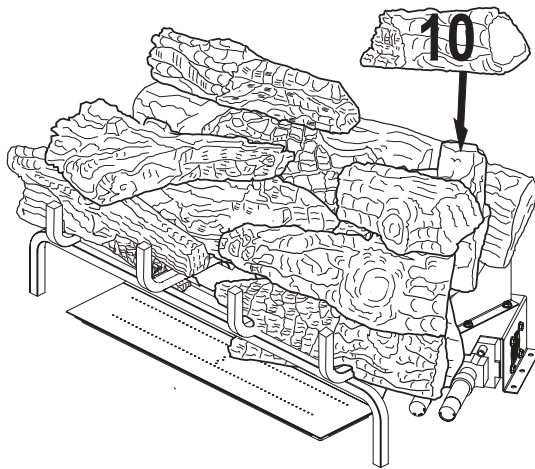

Figure 31 - Installing Log # 10
10. Place the right rear top log (#10) on top of the right rear chunk log (#7) as shown in Figure 31, page 19. Match the rectangular peg on the top of the right rear chunk log (#7) with the rectangular hole on the bottom of the right rear top log (#10).